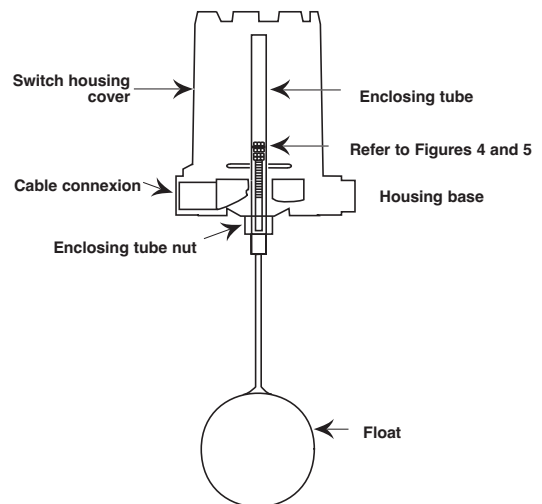

Figure 3
4. Disconnect power supply wires from switch mechanism. Pull wires out of conduit connection opening in housing base. Refer to **Figure 3**.
6. Remove switch housing assembly by loosening hex nut, which is located immediately below housing base. Refer to **Figure 3**.